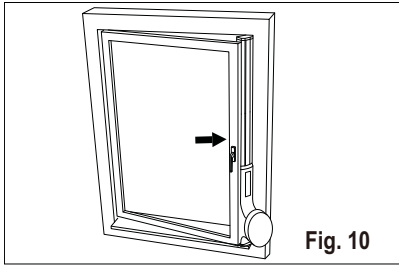

Fig. 10
- Place the window slider kit on the window. Adjust the length of the window slider kit according to the height of window (Fig. 10).